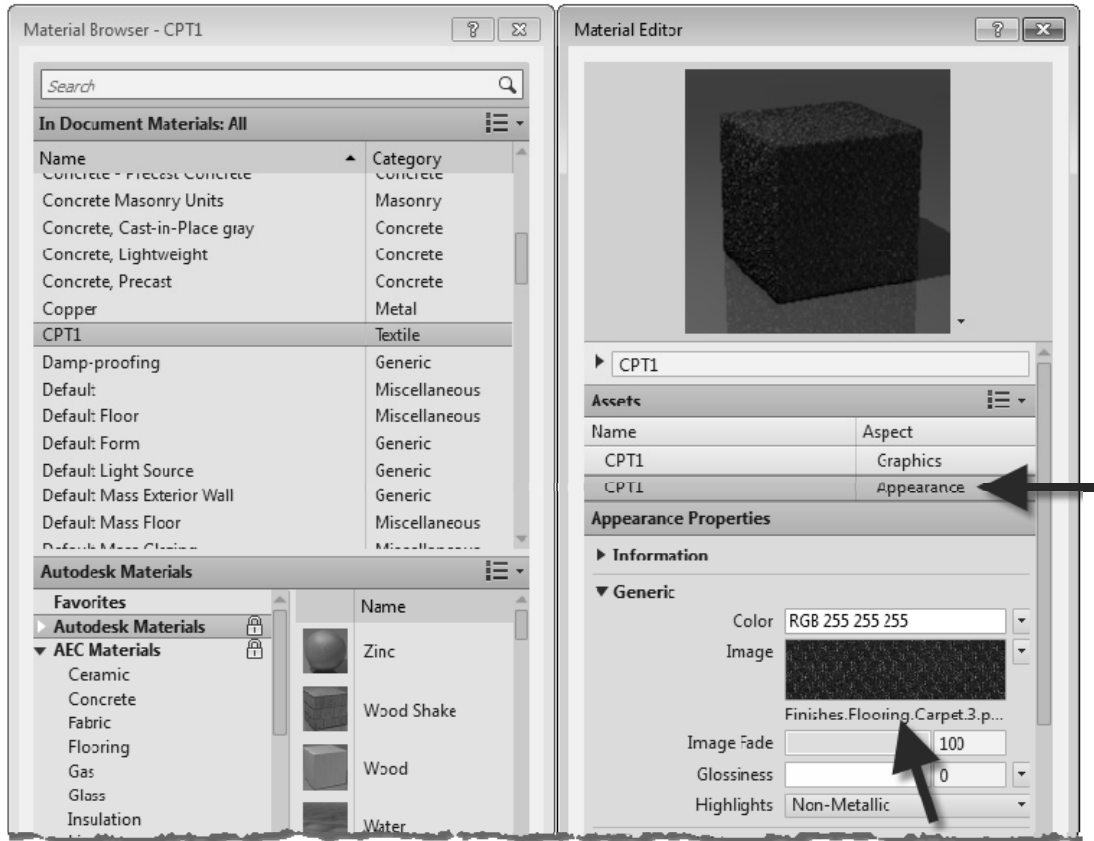

FIGURE 4-3.10 Keynotes selection dialog
21. In the *Material Browser*, click on the file name link pointed out in Figure 4-3.10.